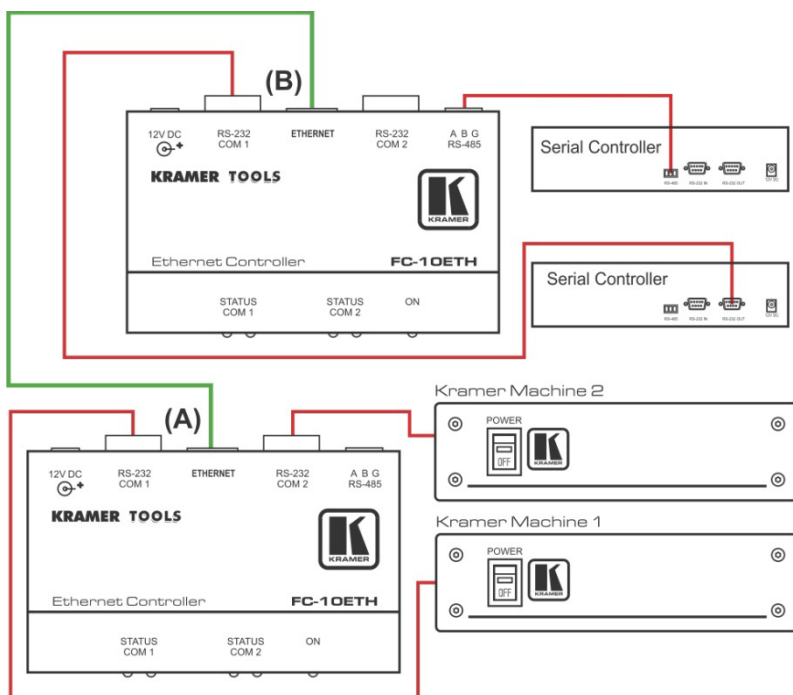

Figure 9: Connecting the FC-10ETH in the Active Routing Mode
To control a Kramer machine via serial controllers (in the Active routing mode), as illustrated in the example in Figure 9, do the following:
6. Connect units **(A)** and **(B)** to your network or Ethernet router, as illustrated in Figure 9.
- COM 1 port of the **FC-10ETH (A)** to the RS-232 port of your machine 1 (for example, a Kramer machine) via a null-modem adapter
- COM 2 port of the **FC-10ETH (A)** to the RS-232 port of your machine 2 (for example, a Kramer machine) via a null modem adapter (alternatively, you can connect the RS-485 port of unit **(A)** to the RS-485 port of your Kramer machine).